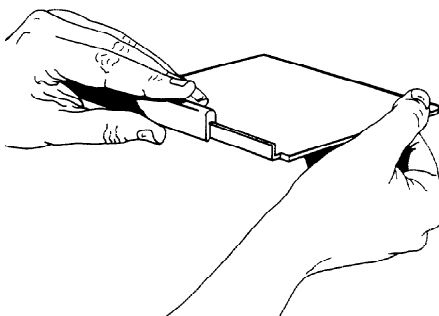

FIGURE 56
2. Slide the front trim right or left to remove from the shelf floor. See Figure 56.